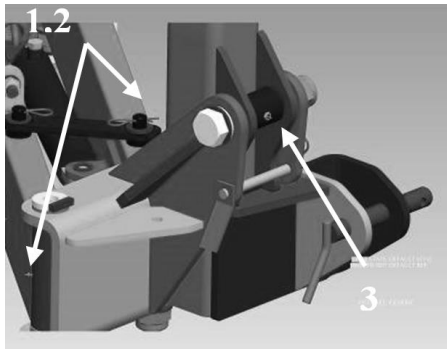

Figure 34
- Pins of the arm (Figure 34, Figure 36)